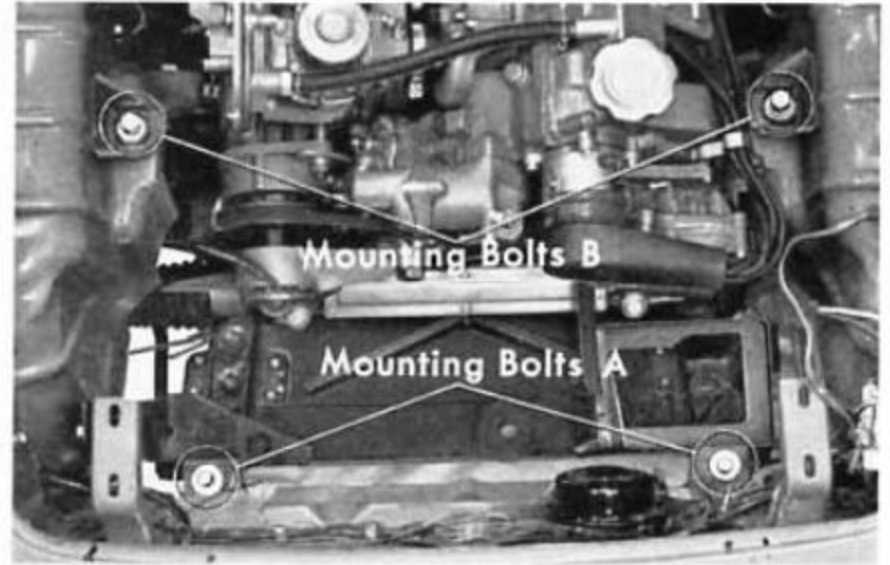

Fig. 17A-16
34. Remove the body mounting bolts, washers and rubber body mounts (Fig. 17A-17).